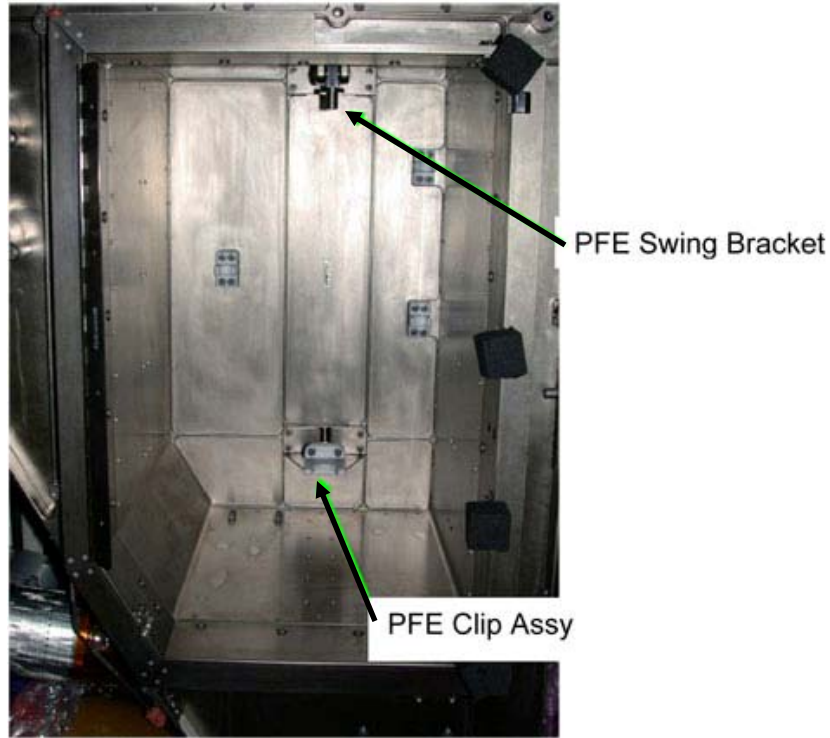

Figure 2.- PFE Install Location.
- 1.3 Engage Swing Bracket Assembly with bottom of PFE. Refer to Figures 2, 3.
- 1.4 Slide neck of PFE into Clip Assembly. Refer to Figures 2, 3.